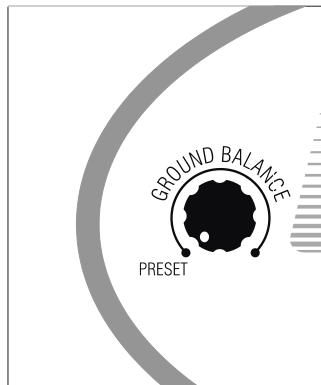

Fig20
- b) Lift the search coil 1 meter more from the ground,(See Figure 20).Press the PINPOINT button, maintain the search coil about 1/2 inch above the surface.